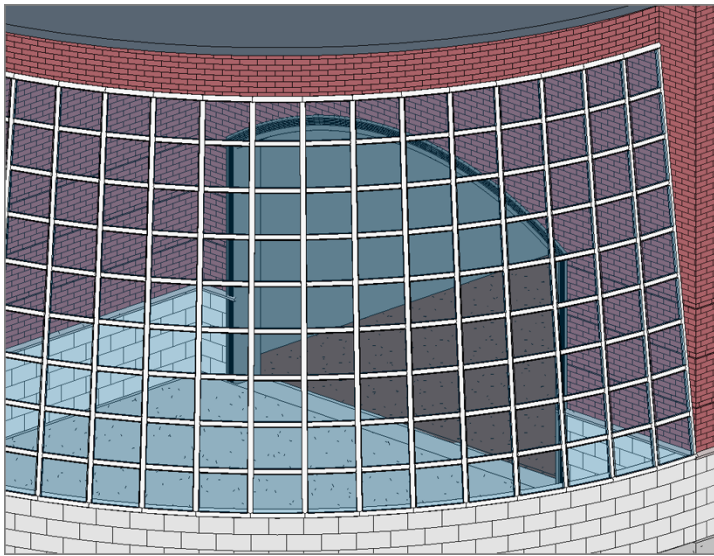

FIGURE 17.33: The finished family
27. Go to a 3D view. Your opening should look like Figure 17.33.